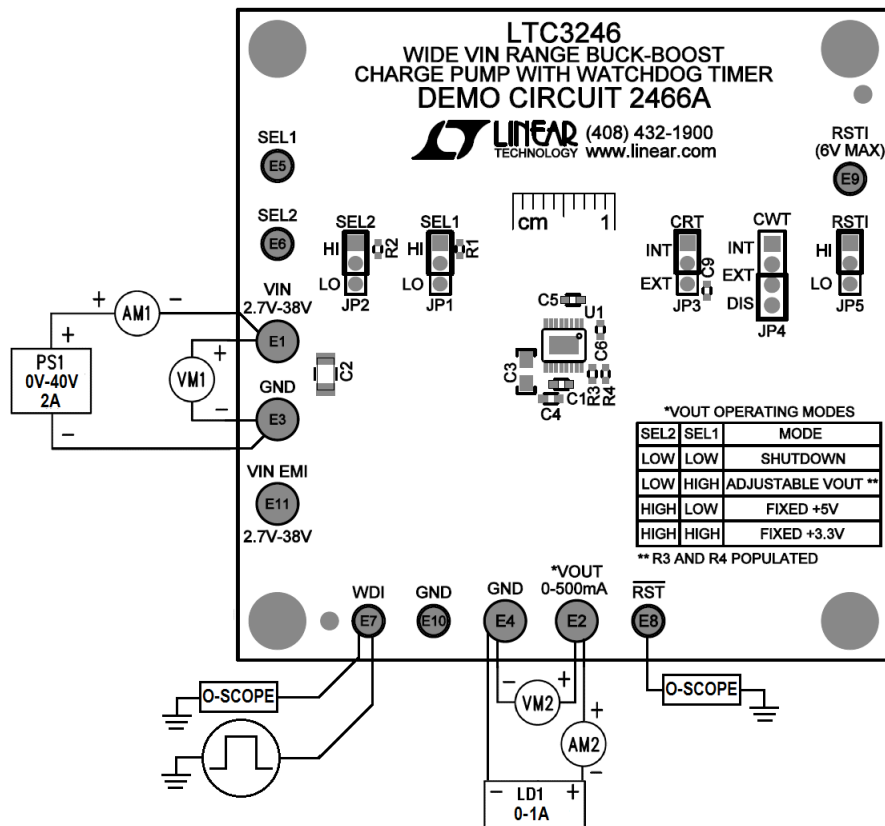

Figure 1. Proper Measurement Equipment Setup for DC2466A
Refer to Figure 1 for the proper measurement equipment setup and jumper settings and follow the procedure below.
- Return the jumpers to their default settings as shown in Figure 1 if desired.